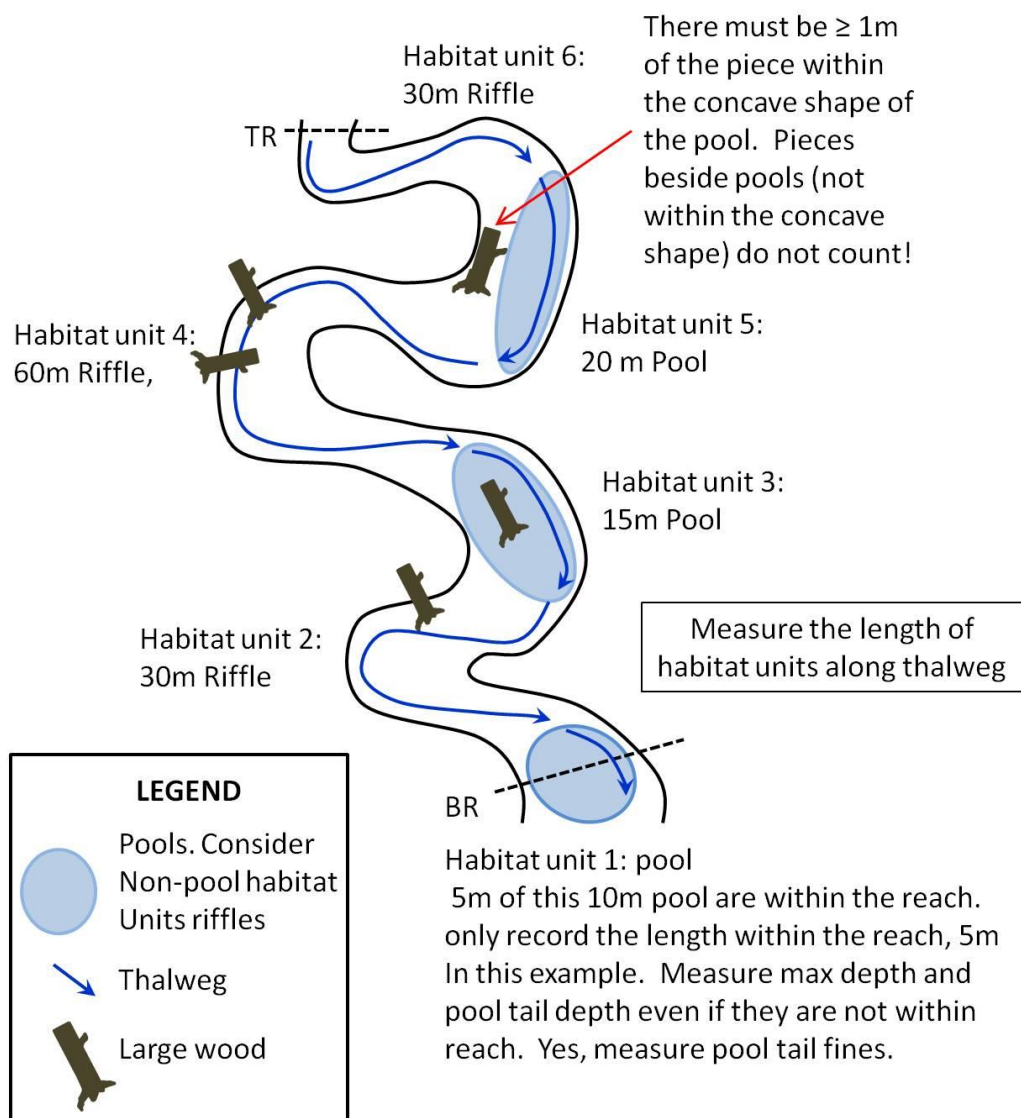

Figure 13: How to record habitat unit information.
- Answer: Yes. Examine Figure 13. If a qualifying pool is partially in the reach, measure the length within the reach. Measure the pool tail depth and max depth even if they fall outside the reach. Measure pool tail fines even if the pool tail falls outside the reach. Comment pool started or ended outside the reach.